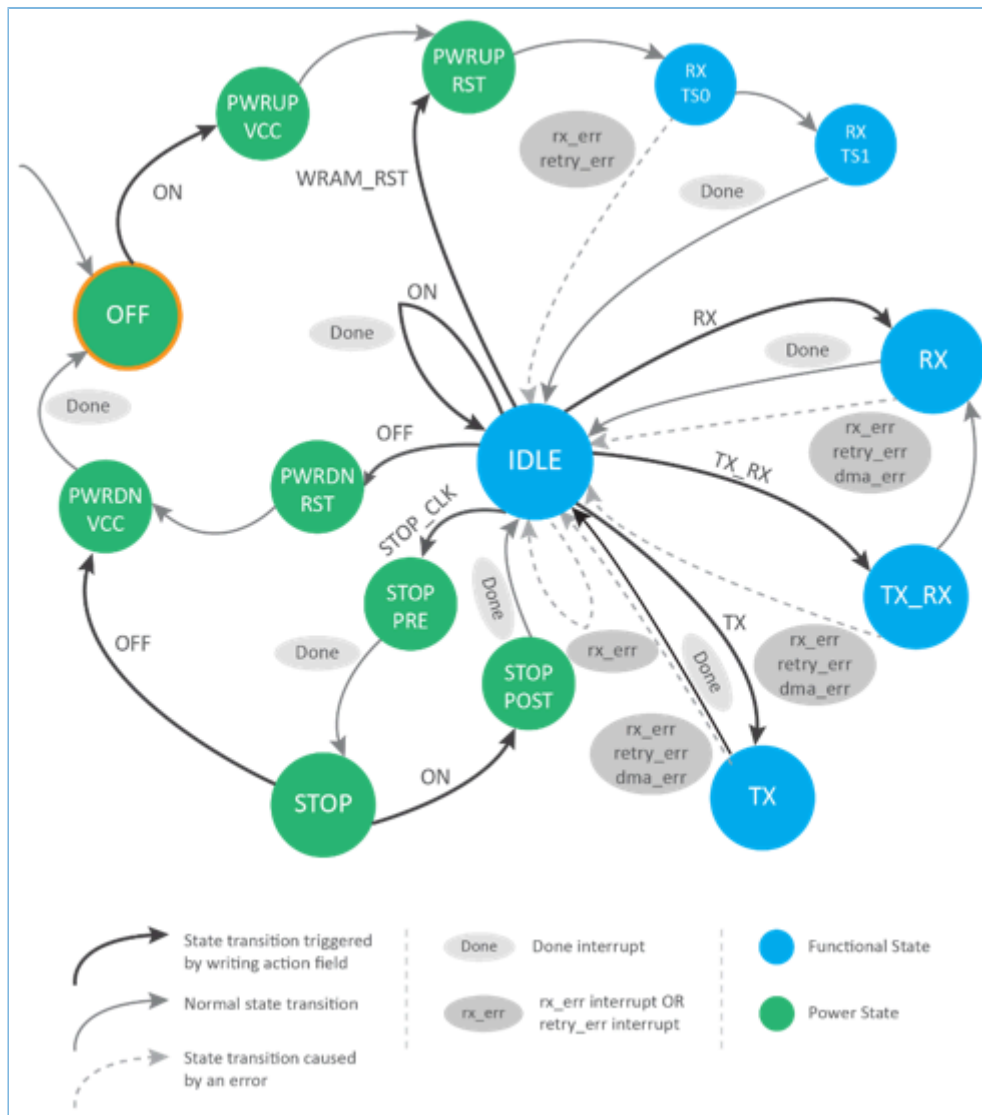

Figure 10-36 Main SIM Interface states
The main state machine is shown in Figure 10-36, with the following major states:
- The action NONE (0) does nothing.
- It is only allowed to request the state transitions in Figure 10-36.